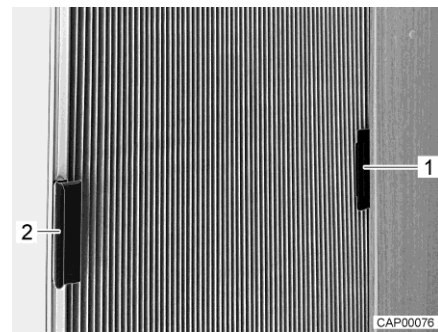

Fig. 8 Roman shade for side pane (closed)
- Push the handle (Fig. 8,1) of the Roman shade into the cap (Fig. 8,2). Thus, the Roman shade is secured against closing involuntarily.